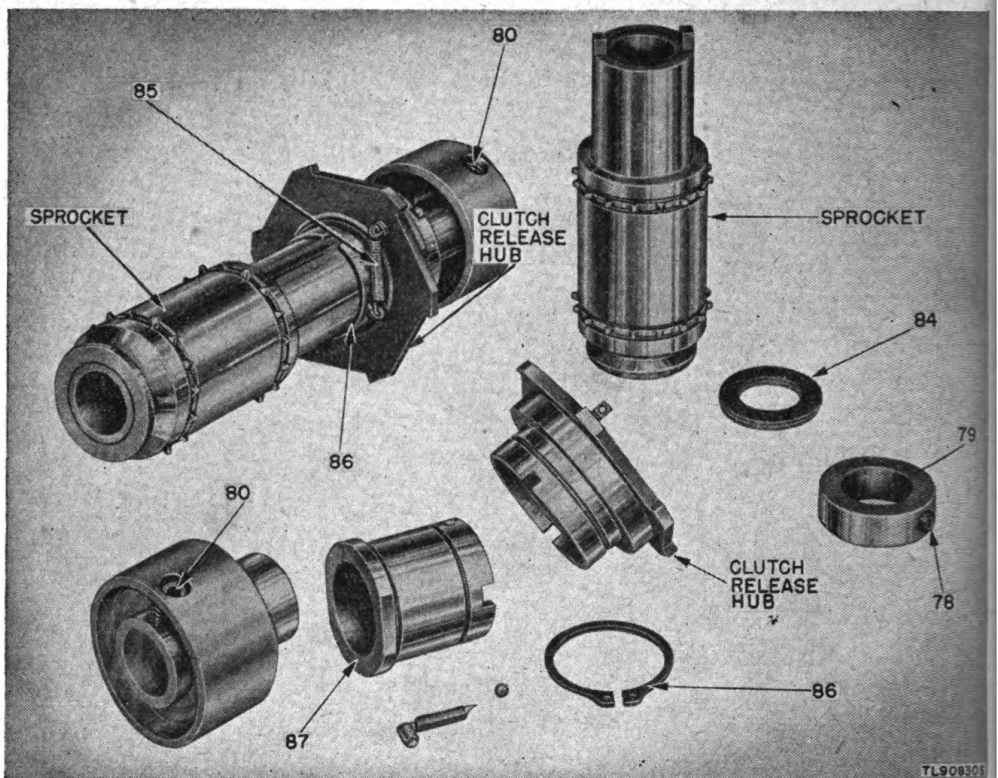

Figure 38. Sprocket and clutch assembly, Sound Recording Set AN/UNQ-1A.
c. CLUTCH DISASSEMBLY FOR SOUND RECORDING SET AN/UNQ-1A (fig. 38). (1) Follow directions, as given in *a* above to remove sprocket.
(2) The clutch and sprocket are not fastened together and may be separated. Remove spring (85) by unhooking its loops. Remove the spring collar (86) by spreading the ears with a screw driver to enlarge the diameter of the collar and clear it from the slot in the cam (87).
(3) Take the entire clutch apart.